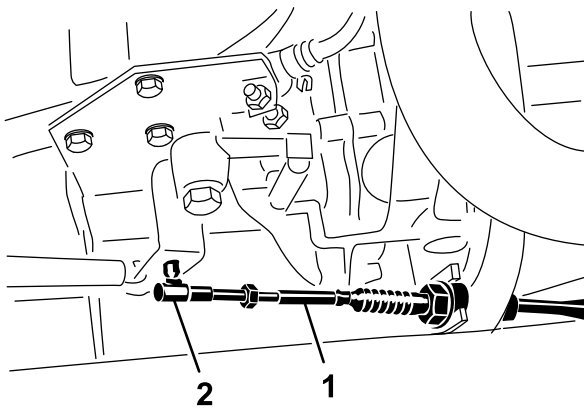
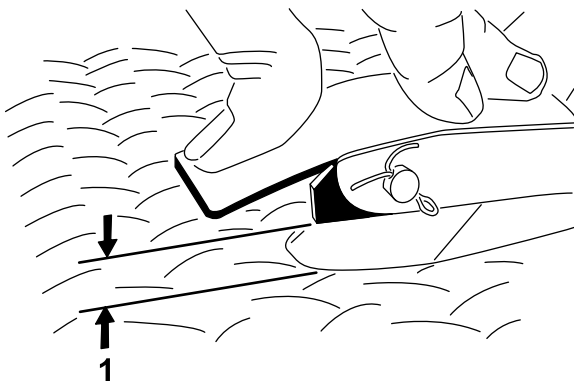

Figure 57
Figure 58
2. Adjust the ball joint on the accelerator cable (Figure 57) to allow 2.54 to 6.35 mm (0.100 to 0.250 inch) of clearance between the accelerator pedal arm and the top of the diamond tread floor plate (Figure 58), when a 111 N (25 lb) force is applied to the center of the pedal. Tighten the locknut.